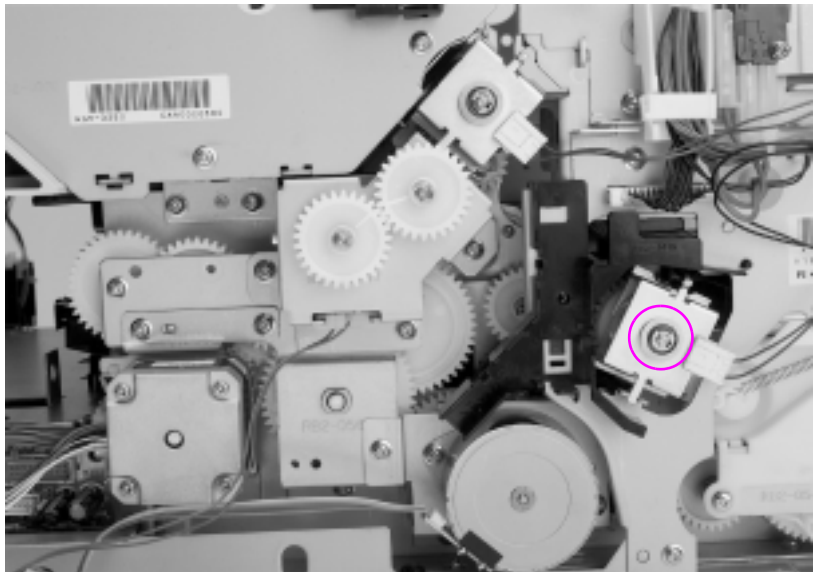

Figure 6-50
- 4 Remove the E-ring shown in Figure 6-50 with longnosed pliers and remove the clutch.